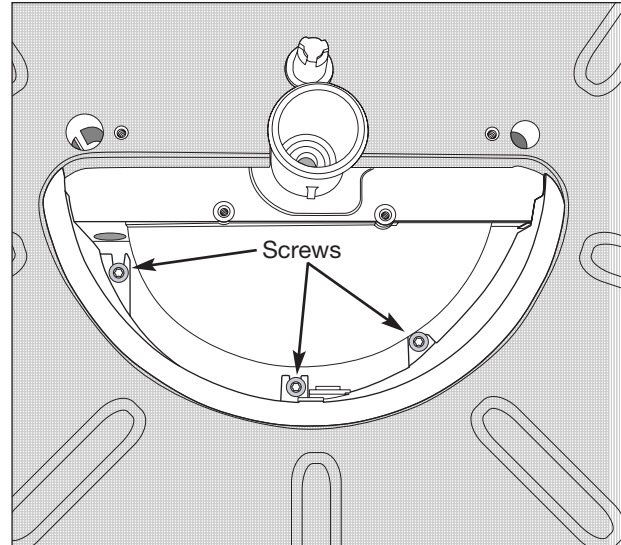

Figure 5-18. Vertical Filter Removal
3. Using a #20 Torx bit, extract the three screws securing the vertical filter to the sump. Pull vertical filter from unit. (See Figure 5-18)